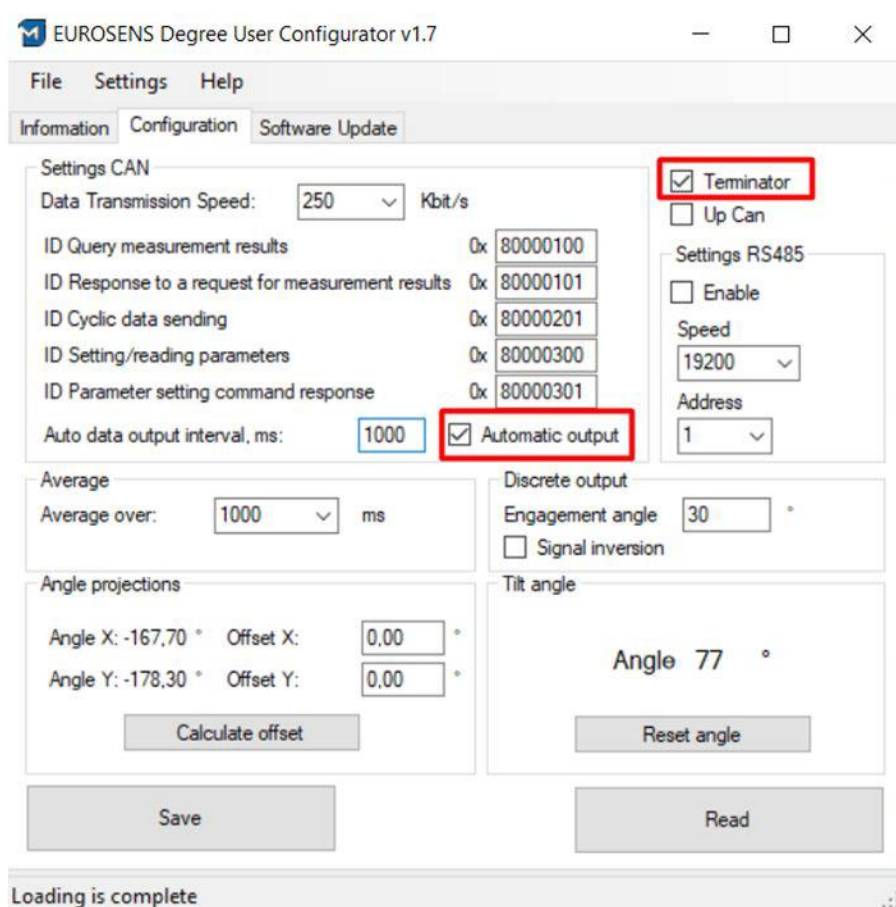

fig. 7.1. Eurosens Degree CAN settings
- 1) In the sensor settings switch ON the «**Terminator**» and «**Automatic output**» options (fig. 7.1).